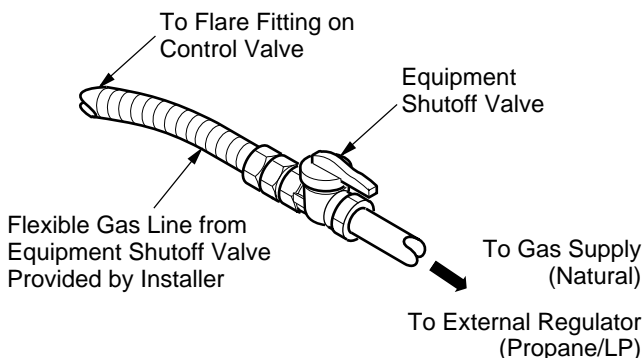

Figure 30 - Flexible Gas Line
2. Route flexible gas line (provided by installer) from equipment shutoff valve to burner system (see Figure 30). Route flexible gas supply line and attach to valve.